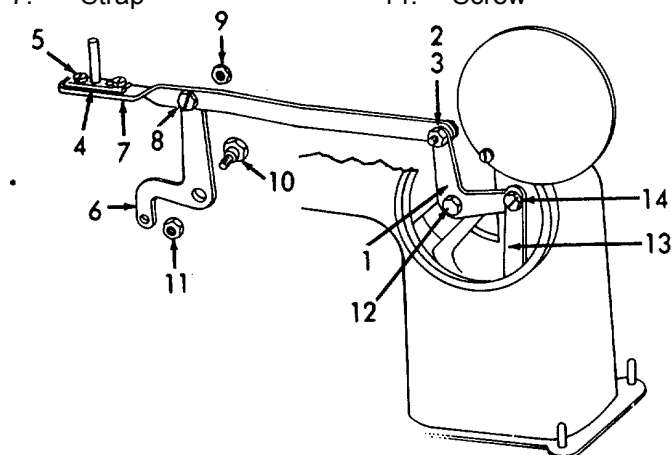
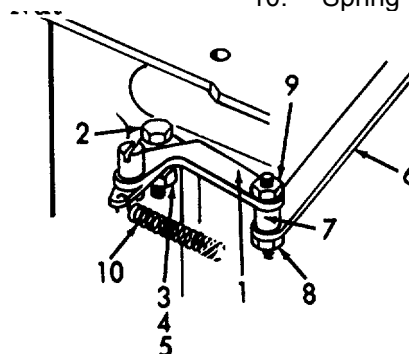

Figure 6-141. Upper Connecting Strap, Installation .
Figure 6-142.
e. *Installation (Refer to Figures 6-141 and 6-142).*
- (1) Refer to Figure 6-141. Install pivot lever (1), pivot screw (2), and nut (3).
- (2) Install kick pin support (4) and two screws (5).
- (3) Connect front segment (6) to connecting strap (7).
- (4) Install connecting stud (8) and nut (9).
- (5) Install connecting strap (7) through front of arm.
- (6) Install pivot screw (10) and nut (11).
- (7) Install screw (12).
- (8) Install connecting strap (13) and screw (14).
- (9) Refer to Figure 6-142. Install pivot lever (1), screw (2), flat washer (3), lockwasher (4), and nut (5).
- (10) Connect pivot lever (1) and connecting strap (6).
- (11) Install stud (7), nut (8), and nut (9).
- (12) Install spring (10).